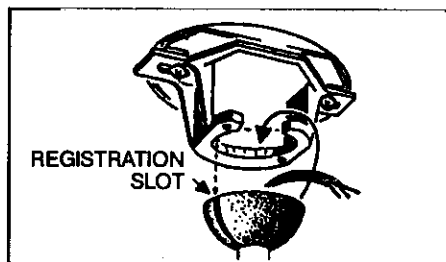

FIG. 10
Step 6. Now lift motor assembly into position and place downrod ball into hanger bracket. Rotate until the check groove has dropped into the registration slot and seats firmly. Rod should not rotate if this is done correctly. (Fig. 10)